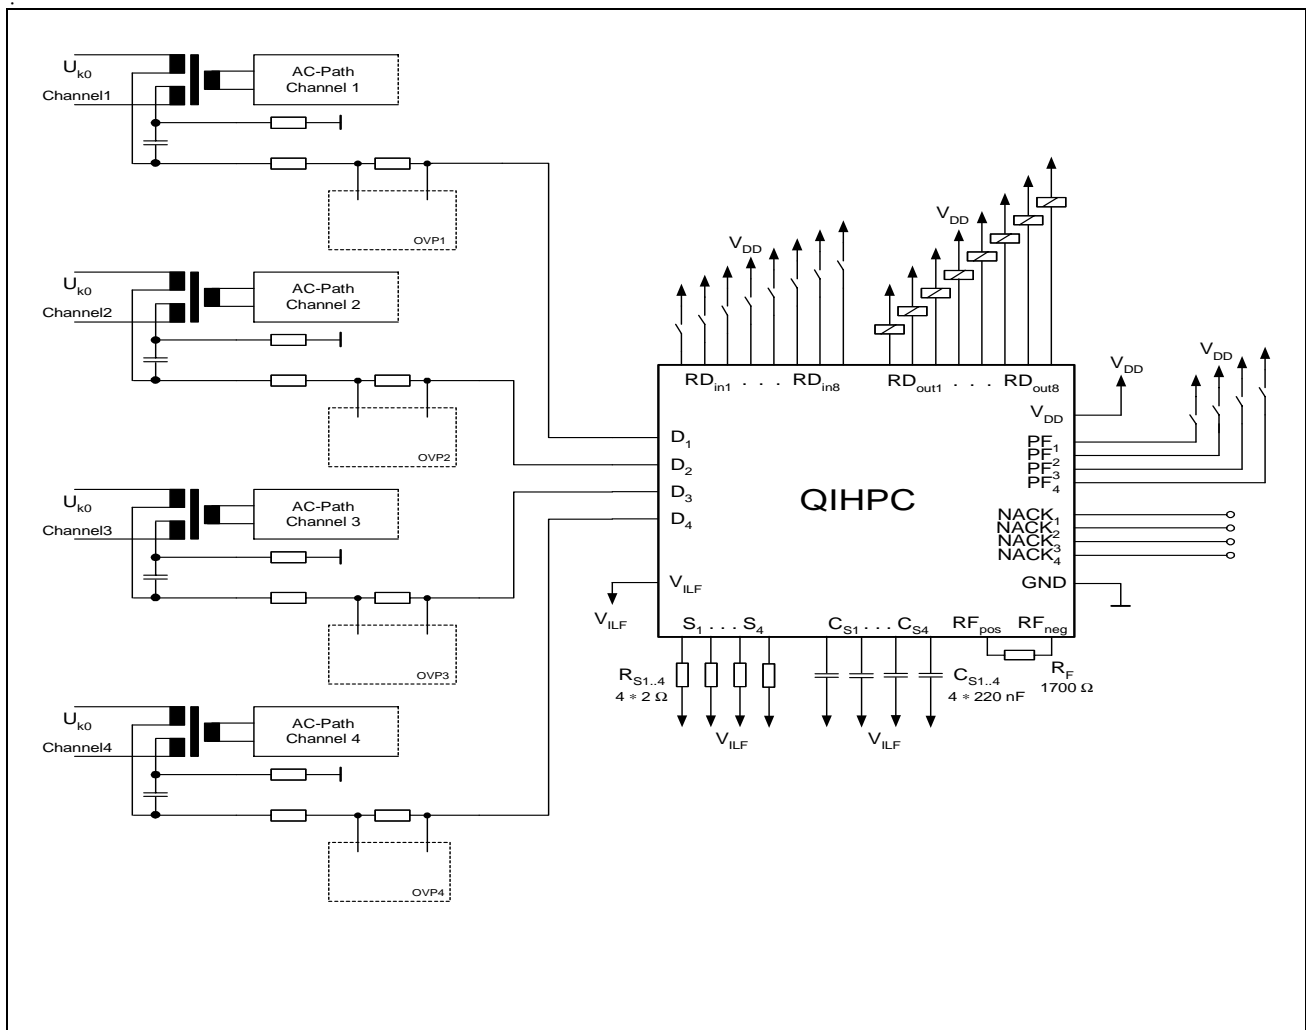

Figure 3 System integration
**Figure 3** gives general overview of the system integration of the QIHPC.